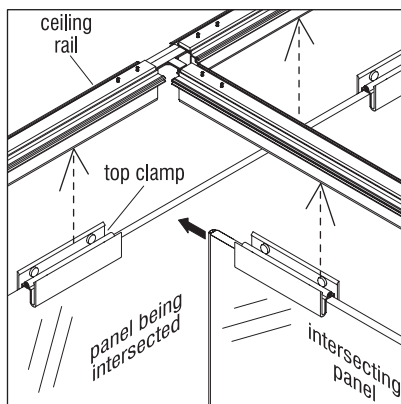

Figure 2 - Dry-fit Panels
7. Once seal is installed stand the "panel being intersected" back under the now-divided ceiling rail, then stand the "intersecting panel" under its ceiling rail and check panels for level and a tight joint. Re-level if necessary. Press the intersecting panel against the panel being intersected, compressing the flexible seal slightly (Figure 2).